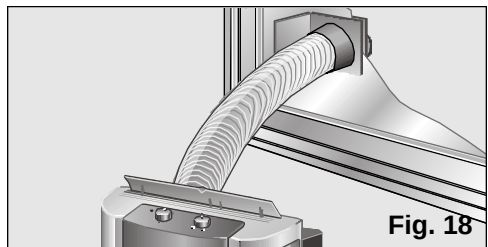

Fig. 18
- ❑ If permanent installation is to be performed through the window, then it is only necessary to use the transparent end piece on the accessory. A 10.5-cm diameter hole needs to be cut in the glass, **Fig. 18.**